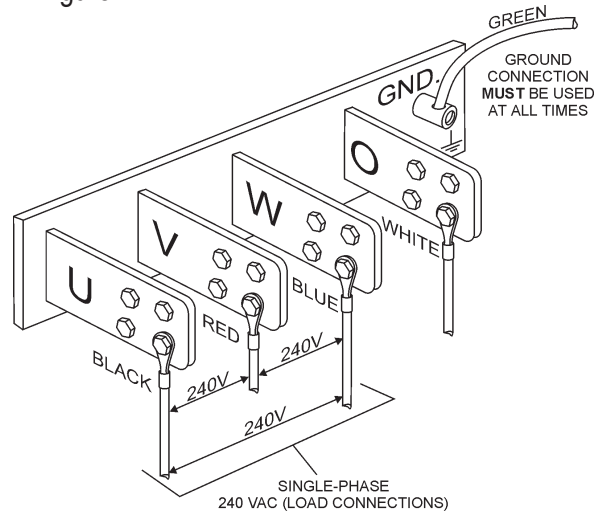

Figure 24. UVWO Terminal Lugs 1Ø-240V Connections
2. Connect the load wires to the UVWO terminals as shown in Figure 24.